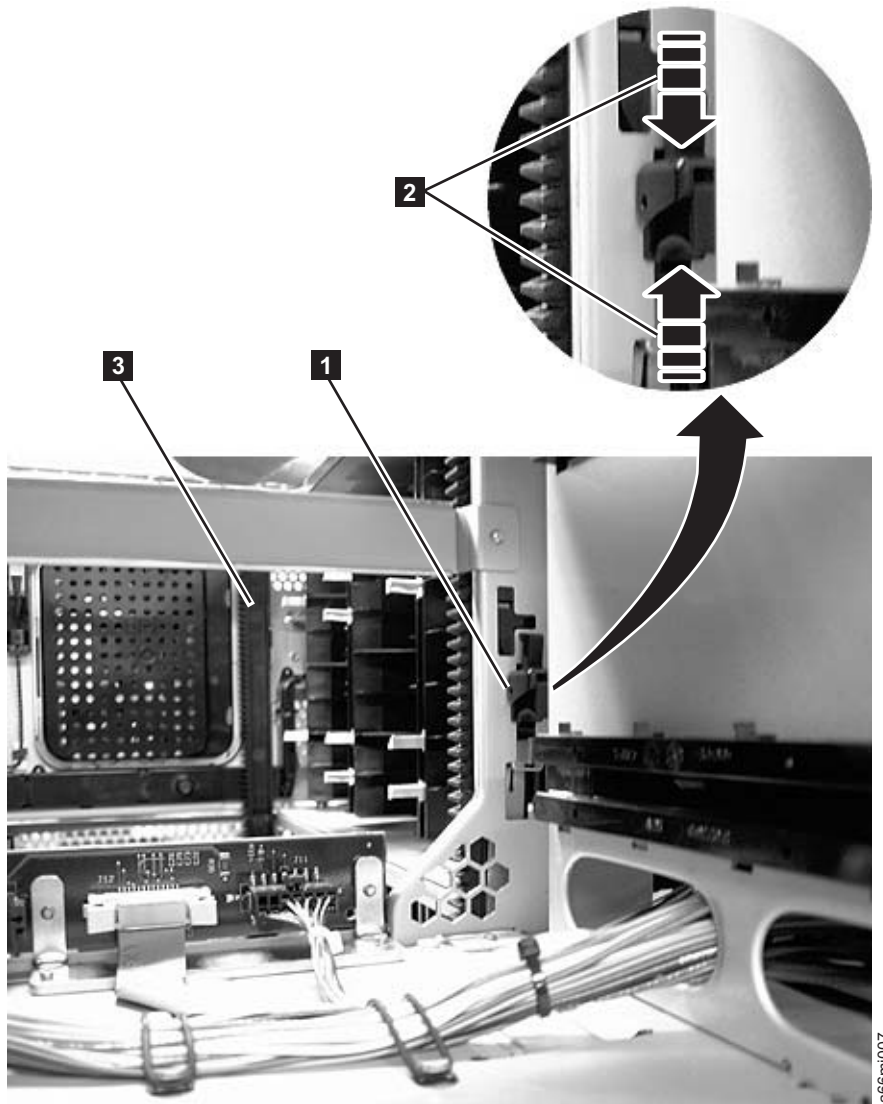

Figure 12-11. Gear racks and gear rack locking mechanism
12. Engage the rear (**1** in Figure 12-11) and front (**3** in Figure 12-11) gear racks in the control module. While pinching the gear rack locking mechanism (**2** in Figure 12-11), push the gear rack down until it locks in place and no gaps appear between the front and rear gear racks in the control module and expansion module.
5. Raise the gear racks. See Figure 12-11 on page 12-12.
- d. Lower the gear racks. See Figure 12-11 on page 12-12.